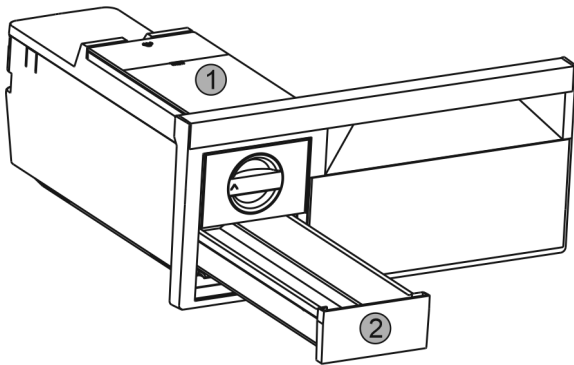

Fig. 46
- Take out the water tank Fig. 46 (1) and ice cube drawer Fig. 46 (2).